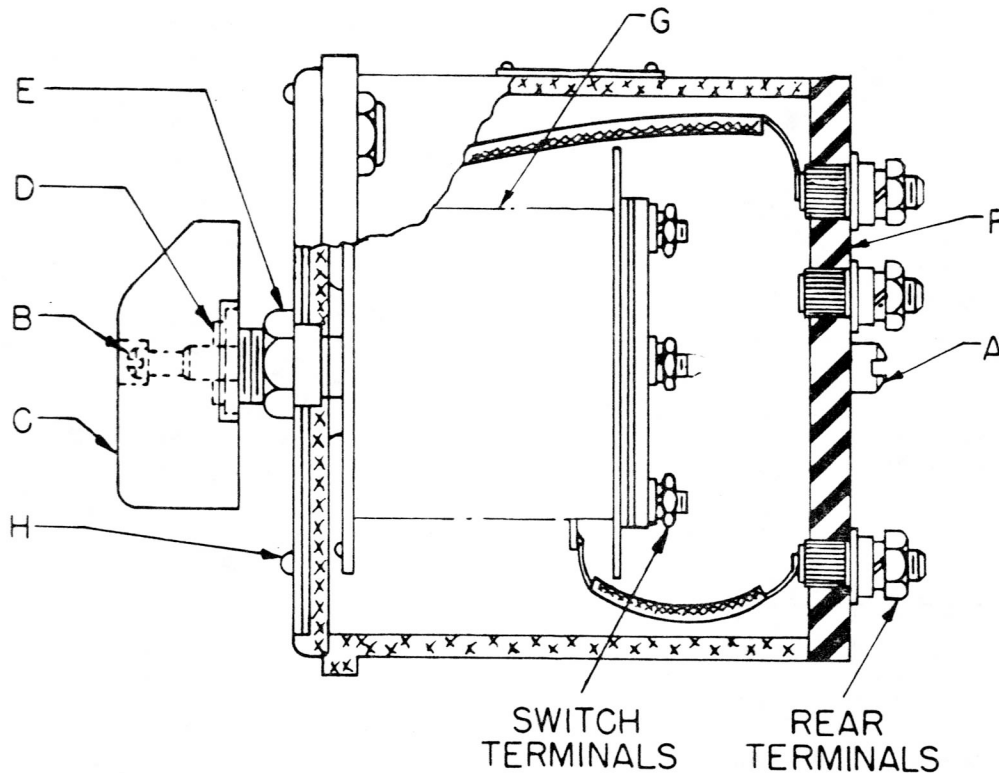

Figure 252—Selector Switch Sectional View
a. DISASSEMBLY. (See figure 252.)
(1) Loosen rear terminal plate by taking out two screws (A).
(2) Remove screw (B) in index knob.
(3) Remove index knob (C) and pin (D).
(4) Remove nut (E).
(5) Remove rear terminal plate (F) and rotary switch (G) as a unit.
(6) Dial can also be removed by taking out the three screws (H).